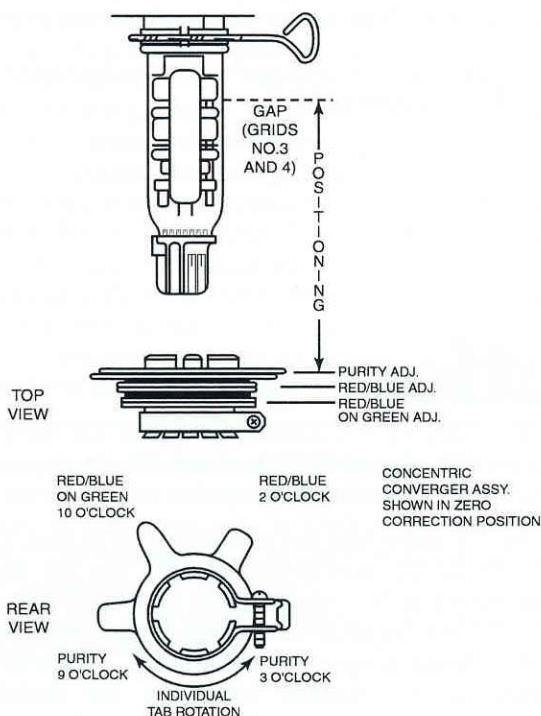

Figure 6
- On picture tubes with a 29 mm neck diameter, set the ring assembly on the CRT neck with the center line of the purity ring-pair over the gap between grids No. 3 and 4. See Fig. 6.
- Make certain that the magnetic ring-pairs are in their correct starting positions before beginning this procedure. The correct starting position for the purity ring-pair is not necessarily the one shown in Figure 6. The correct starting position will vary from ring assemblies from one manufacturer to another. It will be necessary to determine the correct starting position—also known as the zero correction position.
Figure 6 shows a ring assembly in which each of the rings of the purity ring-pair has two tabs—one long and one short. With some ring assemblies of this type, the zero correction position is with the long tab of one ring aligned with the short tab of the other ring. On other ring assemblies of this type, the zero correction position is with the long tab of one ring aligned with the long tab of the other ring. The way to determine which is which is by trying one of these orientations and then rotating the two rings together, as a pair, without changing their orientation with respect to each other. If this rotation of the ring-pair causes no change in the purity, then it is the zero correction position. If the purity does change, then try the other orientation.
The correct starting positions for the other ring-pairs are as shown in Figure 6. For the other type of ring assembly (not shown), the correct starting position for the other two ring-pairs is with all of the tabs aligned with each other and pointing up, toward the anode contact of the CRT.